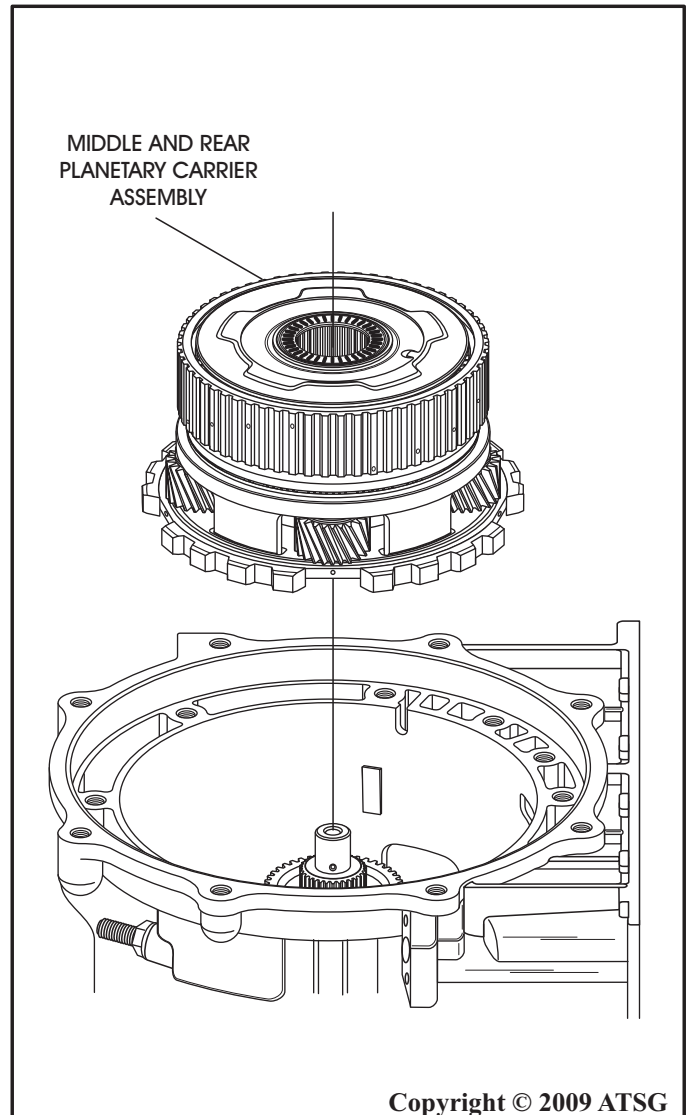

Figure 47
25. Remove the middle and rear planetary carriers as an assembly, as shown in Figure 47, by lifting straight up on the input clutch hub.